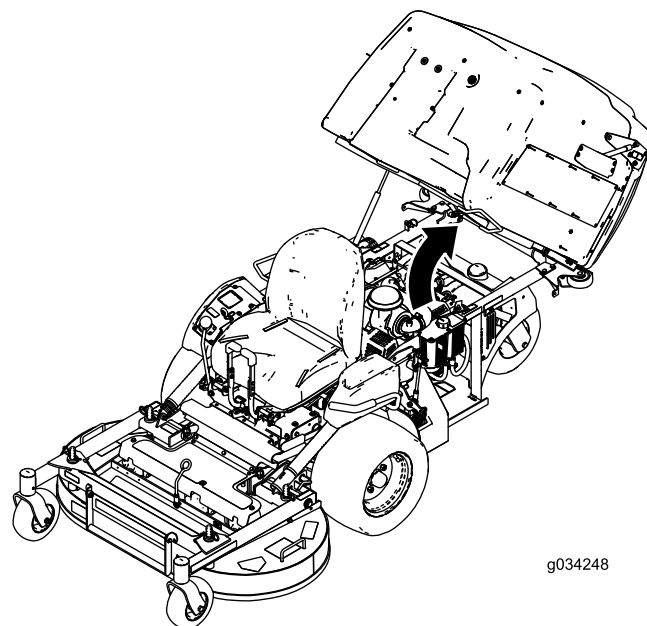

Figure 28
- Raise up the hopper (Figure 28).